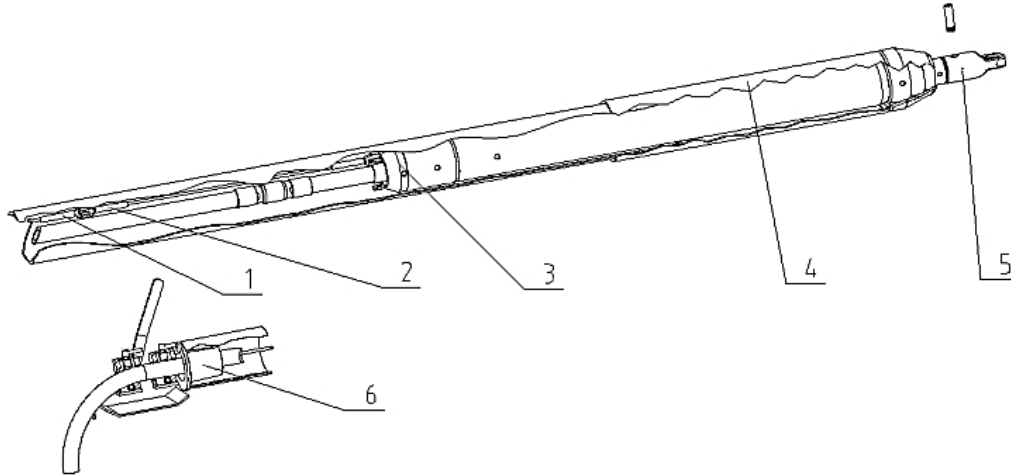

Figure 9.13.1
For installing pipes $\varnothing 160$ mm (Figure 9.13.1) the following equipment is required: Calibrator **PO 160**, **PO 180 (4)**, Tip Towing (**5**), Winch, Pulling Rope (**1**), MAX machine with Towing Tool (**3**), Connection Cable (**2**) Tensioner (**6**) with a sleeve $\varnothing 160 \div \varnothing 180$ depending on the pipe to be installing.